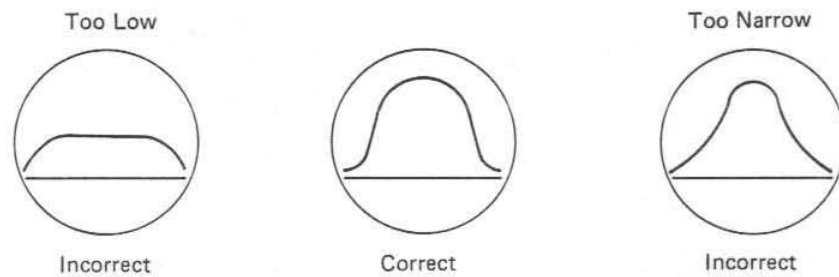

Figure 3.
6. Adjust upper core of "FT5" for highest, widest and round top response as shown in Fig 3 (Since ceramic filters are used in the IF circuit, ignore 10.7 MHz center marker in the above comment).